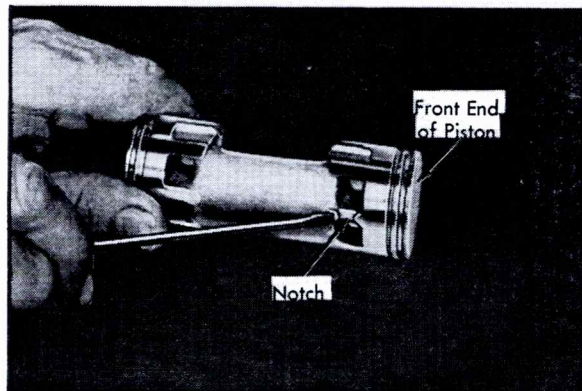

Fig. 1-60 Compressor Piston
9. Place piston in #1 compartment of Parts Tray with notch in casting web at front end of piston in dimpled groove of compartment, Fig. 1-60.